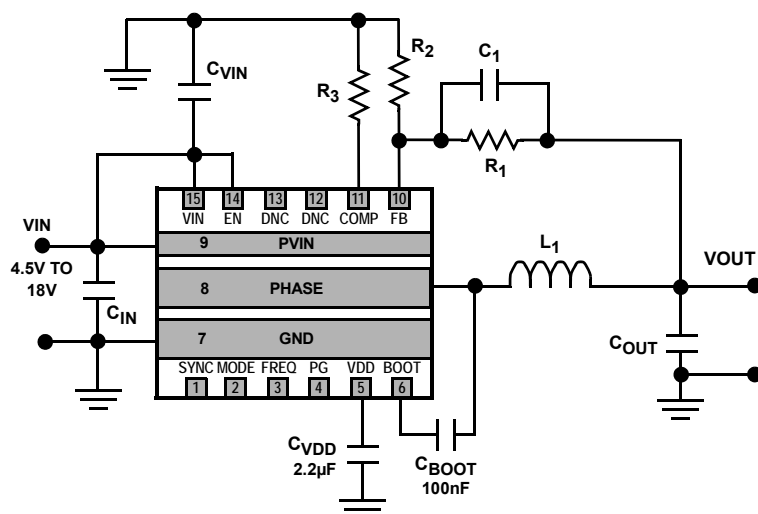

FIGURE 1. TYPICAL APPLICATION SCHEMATIC FOR INTERNAL COMPENSATION
TABLE 1. DESIGN TABLE FOR DIFFERENT OUTPUT VOLTAGE USING INTERNAL COMPENSATION (See Figure 1)
1. The design table is referencing the schematic shown in Figure 1.